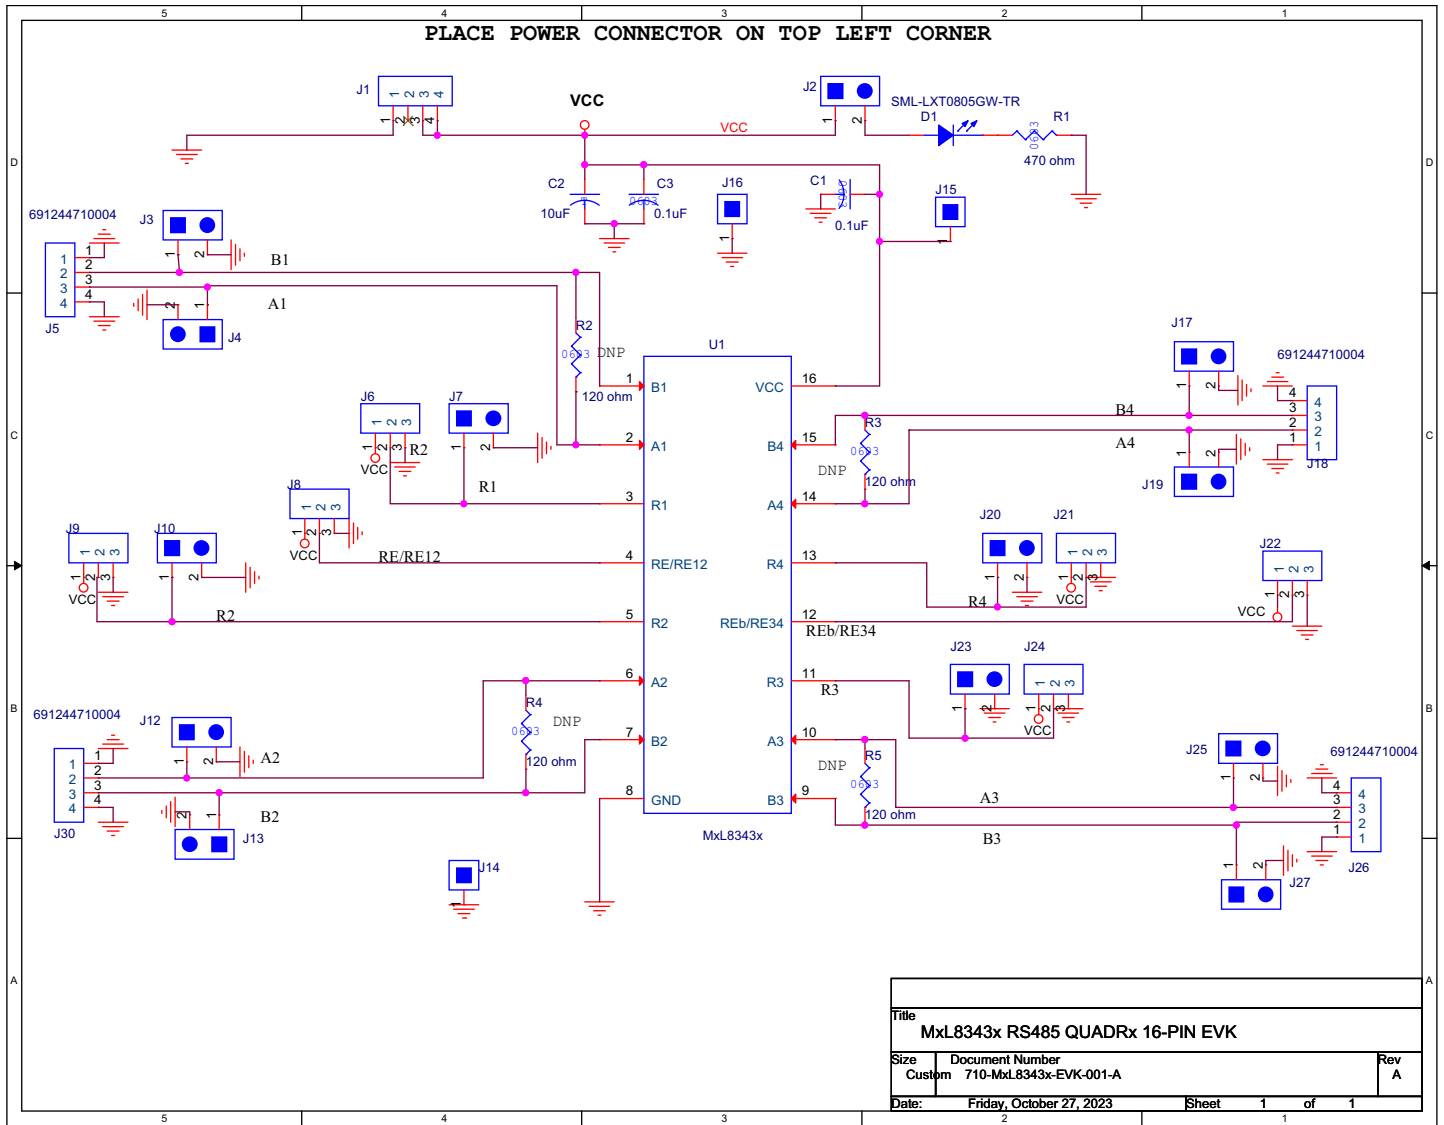

Figure 5: MxL8343x EVK Schematic
- Figure 5 on page 4 shows the schematic of the EVK.